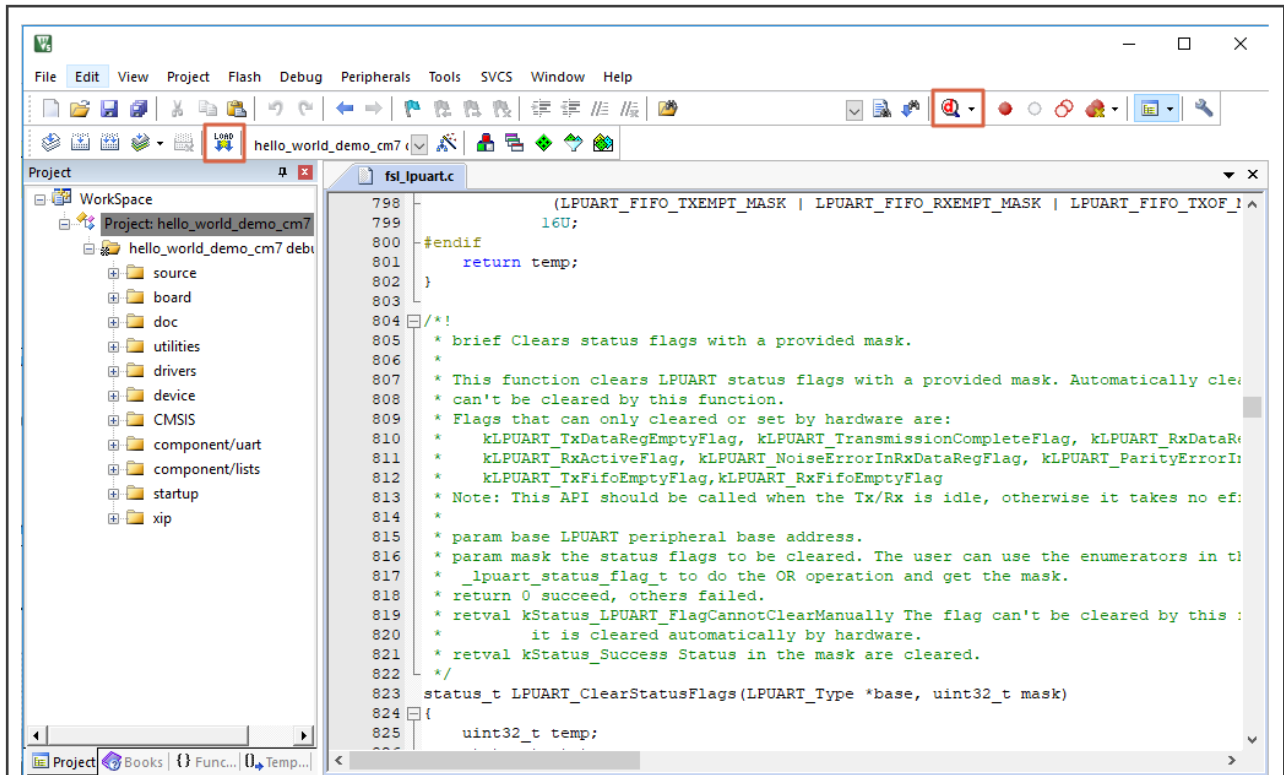

Figure 38. Stop at main() when run debugging
4. To debug the application, click **load** or press the F8 key for flexspi target which needs to download the program to flash memory. Then, click the **Start/Stop Debug Session** button, highlighted in red in Figure 38. If using **J-Link** as the debugger, click **Project option > Debug > Settings > Debug > Port**, and select **SW**.